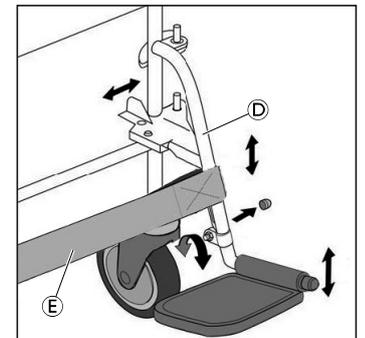

Fig. 5
- Guide the calf strap (E) to the desired height, fasten it in front of and behind the footrests (D) on both sides with the Velcro tape (Fig. 5).